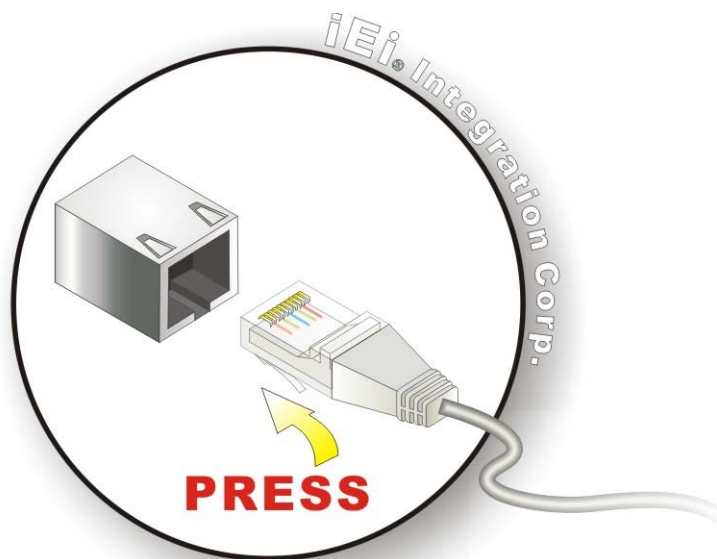

Figure 4-16: LAN Connection
Step 2: **Align the connectors.** Align the RJ-45 connector on the LAN cable with one of the RJ-45 connectors on the IMBA-C2060. See **Figure 4-16**.